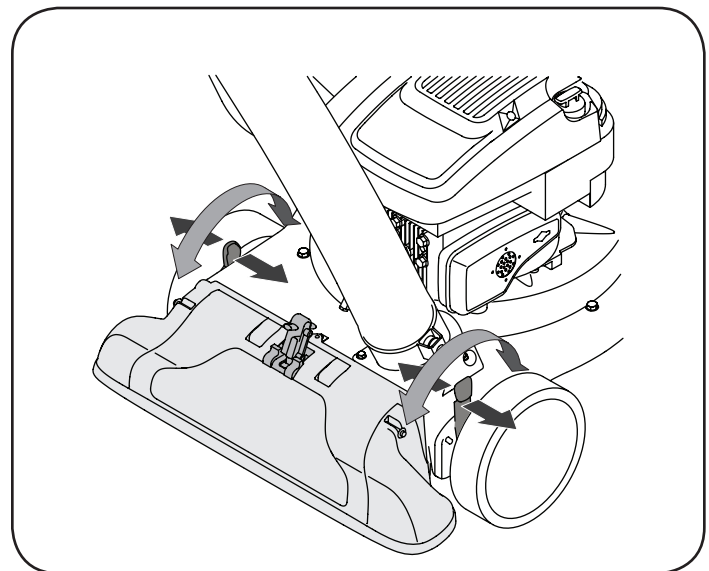

Figure 9
1. Depress nozzle height adjustment lever towards wheel. See Figure 9.